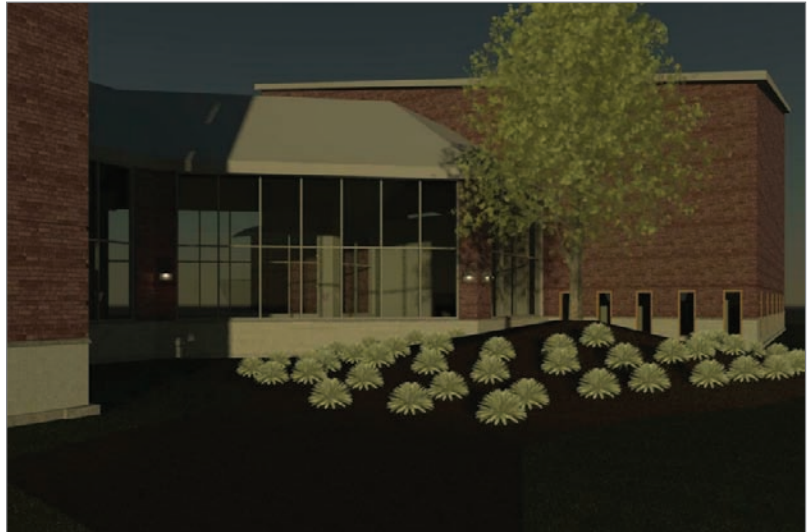

FIGURE 19.14 The rendering at night
23. Click OK; your scene should look like Figure 19.14.